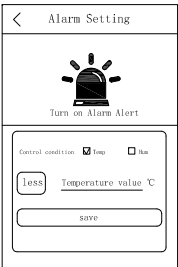

Fig. 10
- a.Set the trigger condition of the sensor: press and hold the sensor ID to access alarm setting interface as shown Fig. 10.